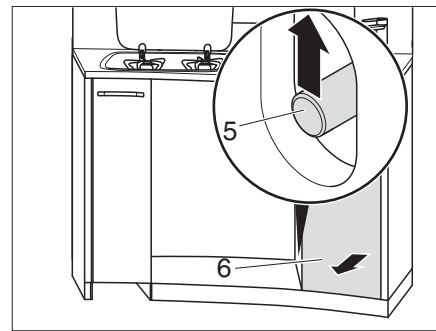

Fig. 117 Unlocking high kitchen drawers
- Grasp through the opening and slide the push rod (Fig. 117,5) upwards.